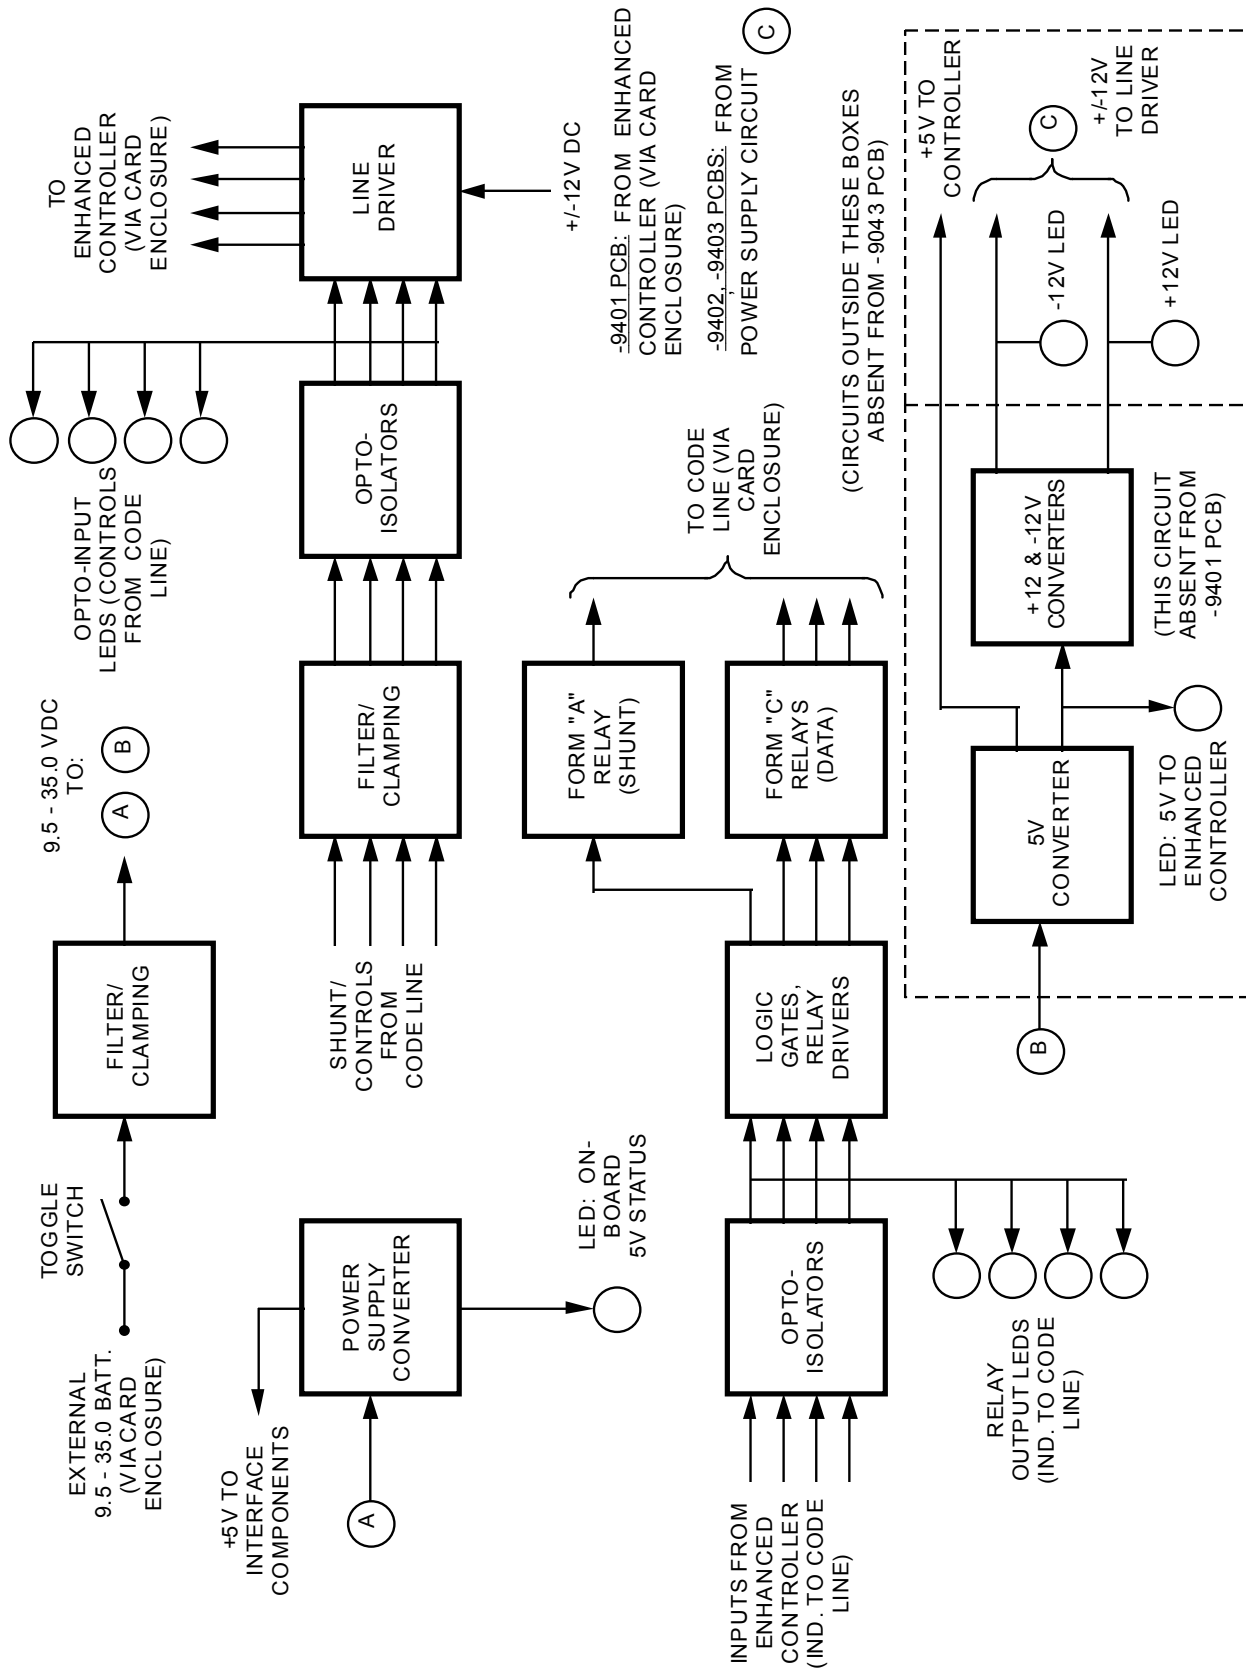

Figure 4-1. -940X Series PCBs - Basic Block Diagram
4.1.2 Components (see Figure 4-1)